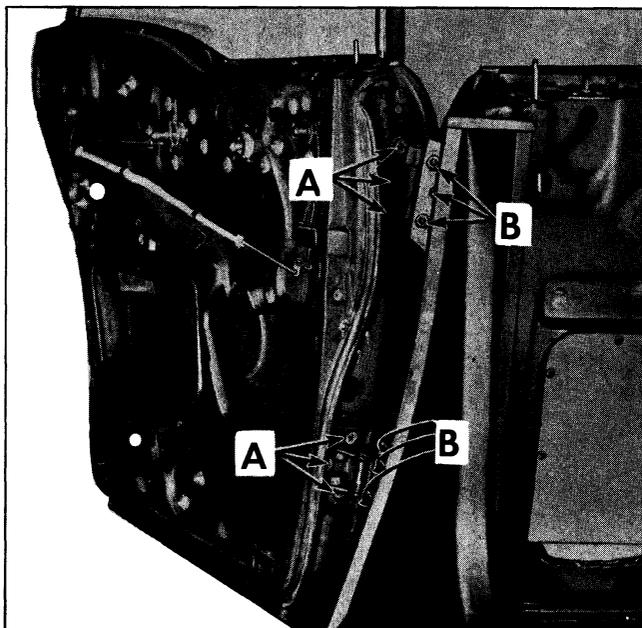

Fig. 17-18 Rear Door Hinge Adjustment (HS)
### REAR DOOR HINGES (4 DOOR HOLIDAY) FIG. 17-18
3. For "in" and "out" adjustment, loosen hinge attaching bolts "A" at door hinge pillar; adjust door as required and tighten bolts. (See Fig. 17-18)